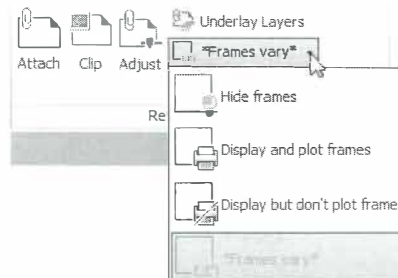

Figure 11-25
- Underlays and image references can only be selected when the frame surrounding them is on. You can change the state of the frames in the *Insert* tab>Reference panel, as shown in Figure 11-25.